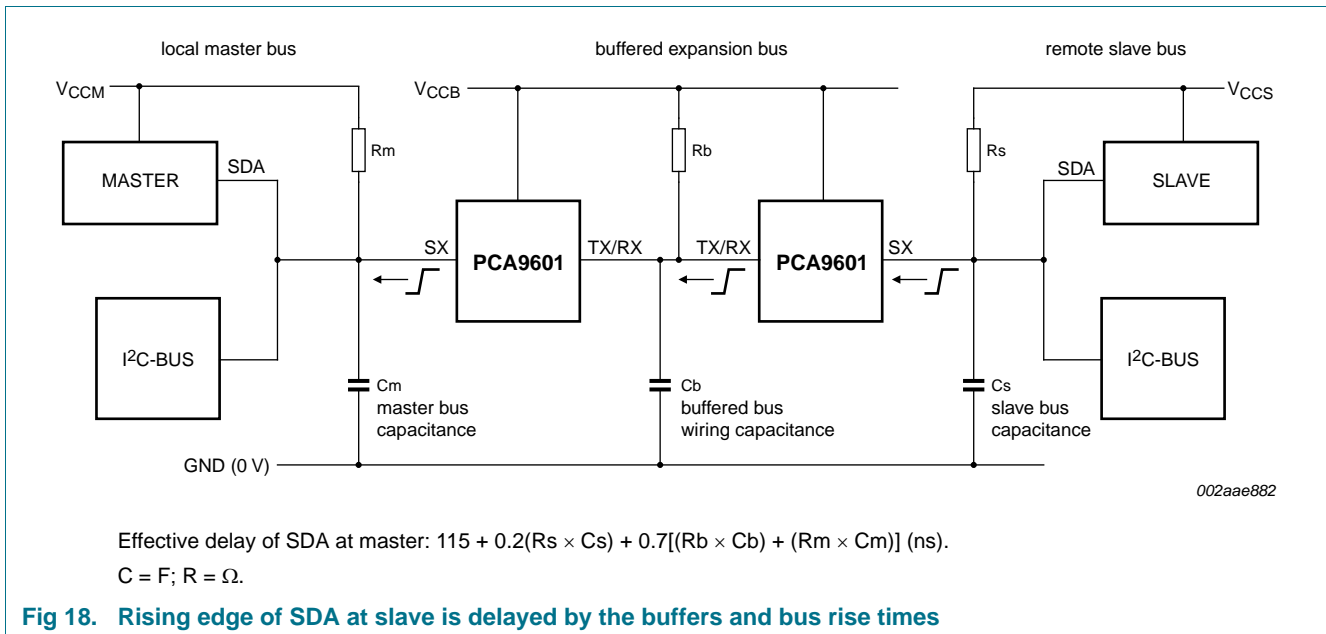

Fig 18. Rising edge of SDA at slave is delayed by the buffers and bus rise times
Figure 16, Figure 17, and Figure 18 show the PCA9601 used to drive extended bus wiring with relatively large capacitances linking two I²C-bus nodes. It includes simplified expressions for making the relevant timing calculations for 3.3 V or 5 V operation. Because the buffers and the wiring introduce timing delays, it may be necessary to decrease the nominal SCL frequency. In most cases the actual bus frequency will be lower than the nominal Master timing due to bit-wise stretching of the clock periods.
- C** — The propagation delay of the slave’s response signal through the buffers and wiring back to the master. The important delay is that of a rising edge in the SDA signal. Rising edges are always slower and are therefore delayed by a longer time than falling edges. (The rising edges are limited by the passive pull-up while falling edges are actively driven); see Figure 18.
SDA, reaching the master (Figure 18).